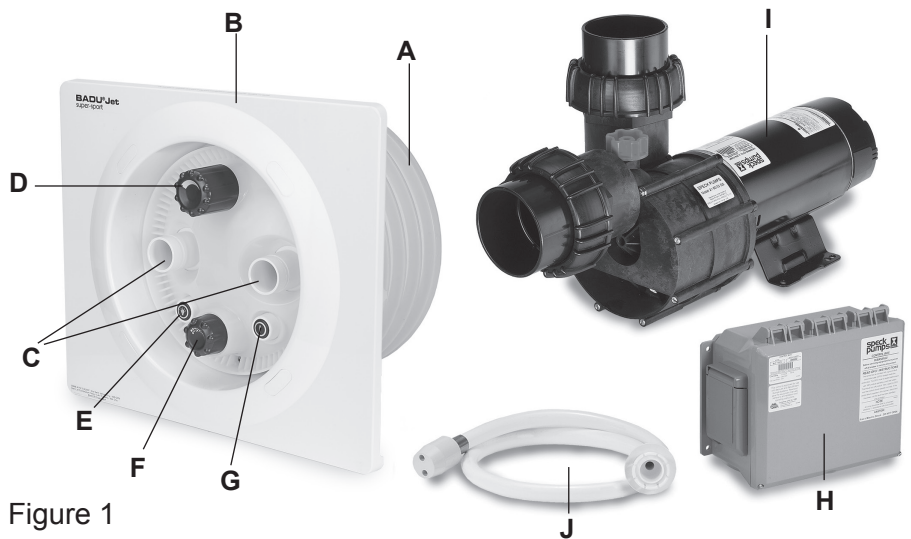

Figure 1
2. Inspect the contents of each carton and verify that all parts are included. All parts are manufactured of corrosion-resistant material and combined in one housing which can be installed in pools of any size and shape. (See Figure 1)